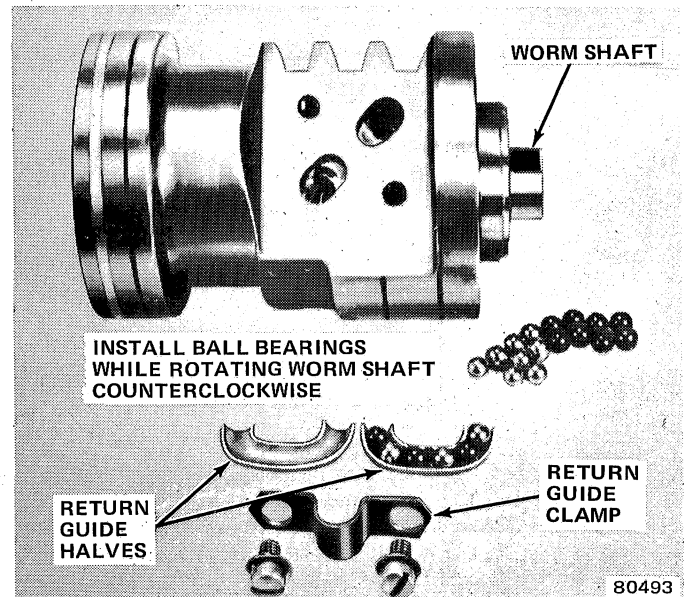

Fig. 2L-34 Rack Piston Ball Bearing Installation
(7) Fill one ball return guide half with petroleum jelly and install six remaining ball bearings in guide (fig. 2L-34). Be sure bearings in guide are in sequence with bearings in rack piston and that total of 24 ball bearings are installed (18 in rack piston and 6 in return guide).
(8) Assemble both ball return guide halves and insert guides in rack piston. Guides should fit loosely.
(9) Position ball return guide clamp over guides and install clamp attaching bolts and washers. Tighten bolts to 10 foot-pounds (14 N•m) torque.
(10) Insert Arbor Tool J-21552 into rack piston until it contacts wormshaft.
(11) Apply steady pressure against arbor tool to maintain contact with wormshaft and back wormshaft out of rack piston.